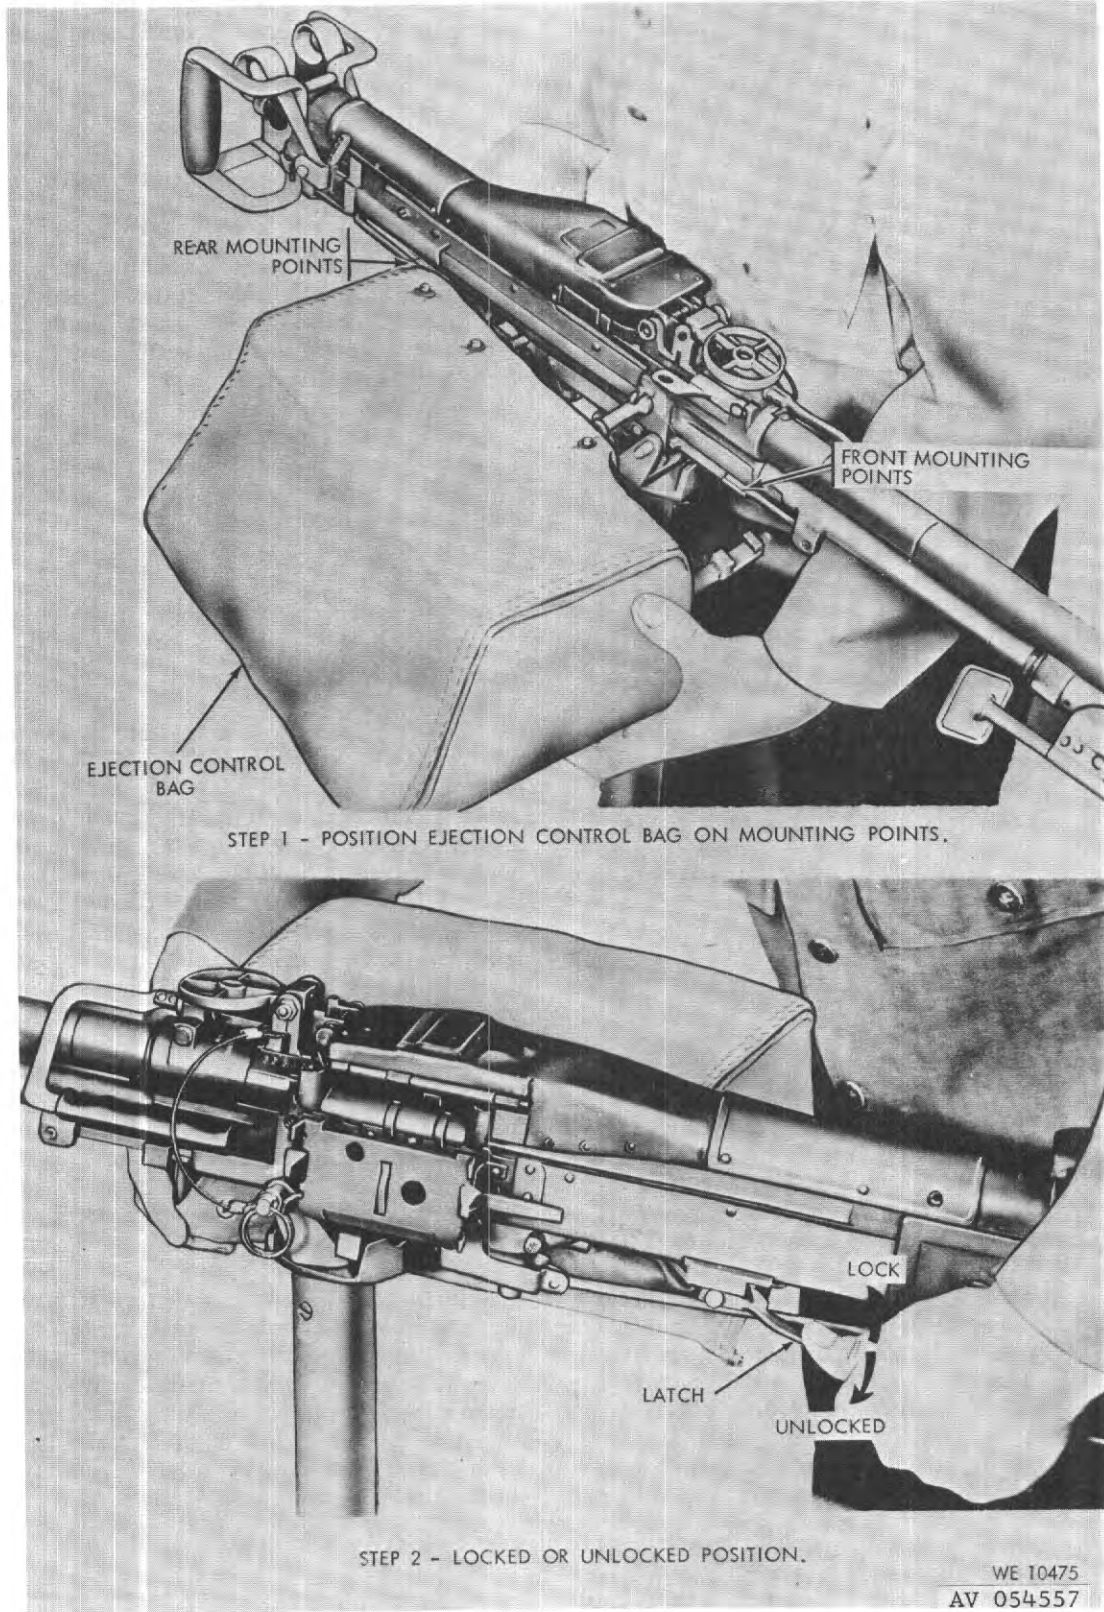

Figure 6-11. Installation or removal of ejection control bag
e. Ejection Control Bag - Properly latched (figure 6-11).